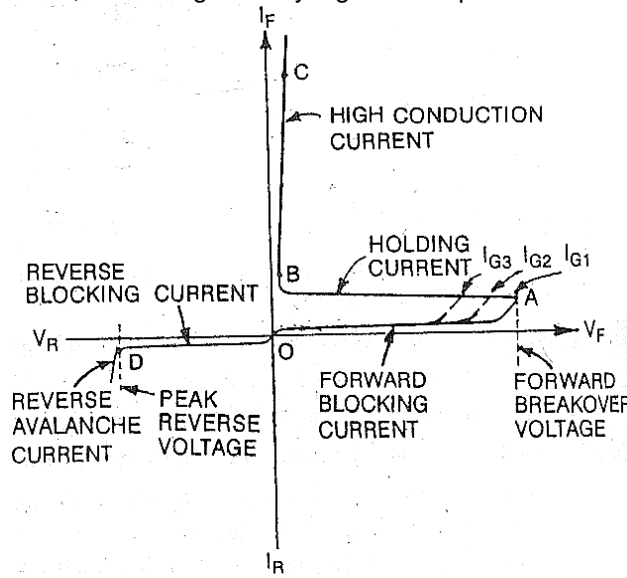

Fig. 38.6
**Reverse Characteristics:** When anode is connected to negative and cathode to positive of power supply, the curve between  $V$  and  $I$  is called reverse characteristic shown in fig.38.6. In this case, junctions  $J_1$  and  $J_3$  are reverse biased while  $J_2$  is forward biased. It is clear that by increasing the reverse voltage beyond a certain value (point D) will result in the breakdown of the junctions  $J_1$   $J_2$  and SCR can no longer block the flow of current through it. However, this voltage is very high as compared to the forward voltage.